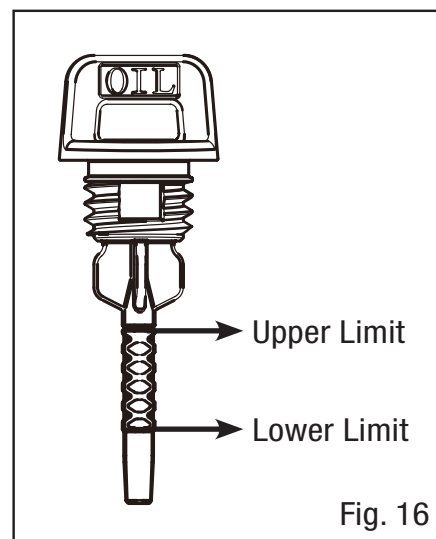

Fig. 16
3. Insert the dipstick into the oil fill opening without screwing in. Remove the dipstick to check the oil mark (Fig. 16). Add oil if the oil mark covers less than one half of the dipstick.